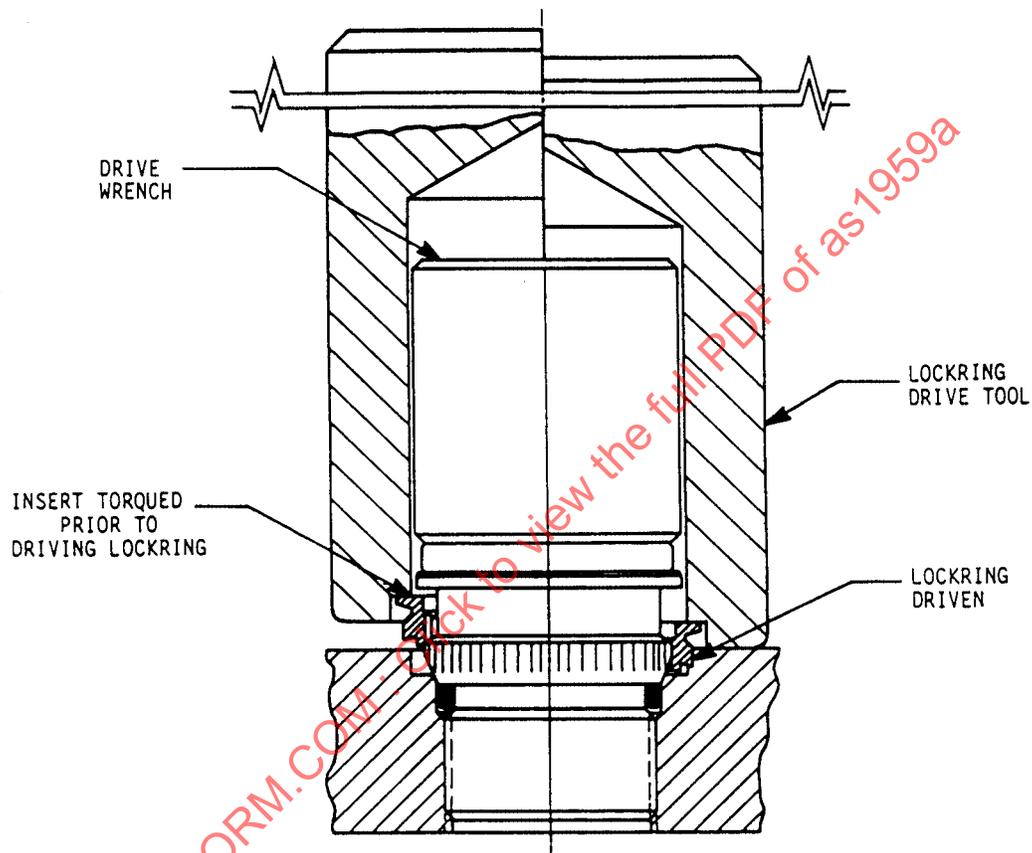

FIGURE 4
5.3.7 While the zinc chromate (or other primer) applied per 5.3.6 is still wet, place the locking drive tool over the drive wrench and let it rest on the locking top surface. Apply a sufficient downward force to drive locking into the surface of port counterbore until the face of the locking drive tool touches the port surface (see Fig. 4).